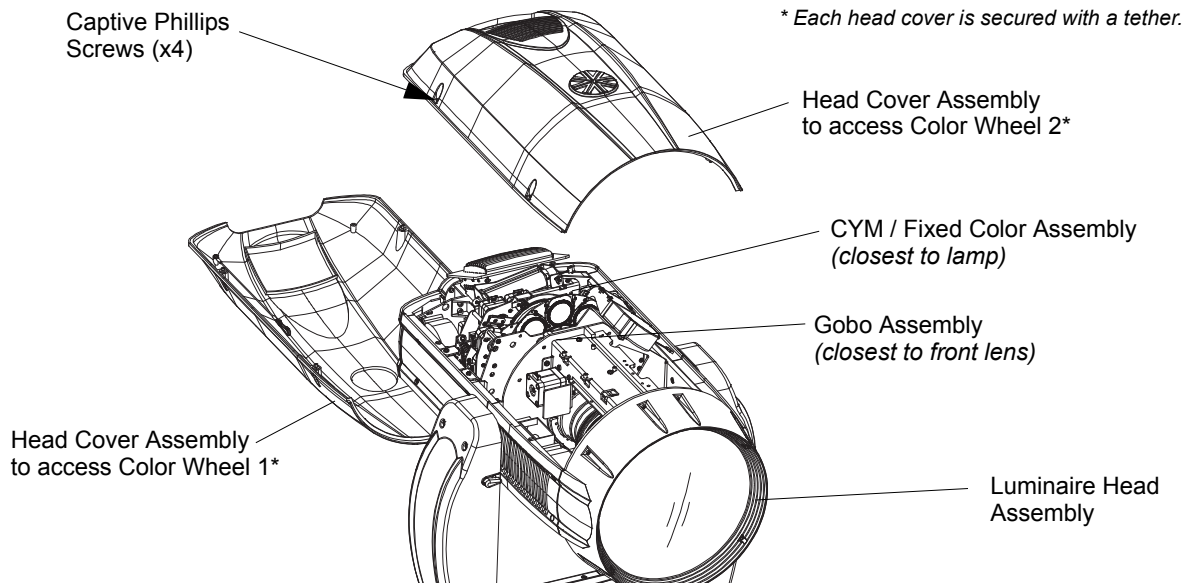

Figure 2-4: Replacing Fixed Color Filters
- a. For Fixed Color Wheel 1 (closest to the rear of luminaire), remove head cover assembly as indicated in Figure 2-4 by loosening four captive screws and lifting cover away from luminaire head. Note, head cover is attached by a safety tether.
- b. For Fixed Color Wheel 2 (closest to the front of luminaire), remove head cover assembly as indicated in Figure 2-4 by loosening our captive screws and lifting cover away from luminaire head. Note, head cover is attached by a safety tether.
- a. For Rotating Gobo Wheel 1 (closest to the rear of luminaire), remove head cover assembly as indicated in Figure 2-4 by loosening our captive screws and lifting cover away from luminaire head. Note, head cover is attached by a safety tether.
- b. For Rotating Gobo Wheel 2 (closest to the front of luminaire), remove head cover assembly as indicated in Figure 2-4 by loosening our captive screws and lifting cover away from luminaire head. Note, head cover is attached by a safety tether.